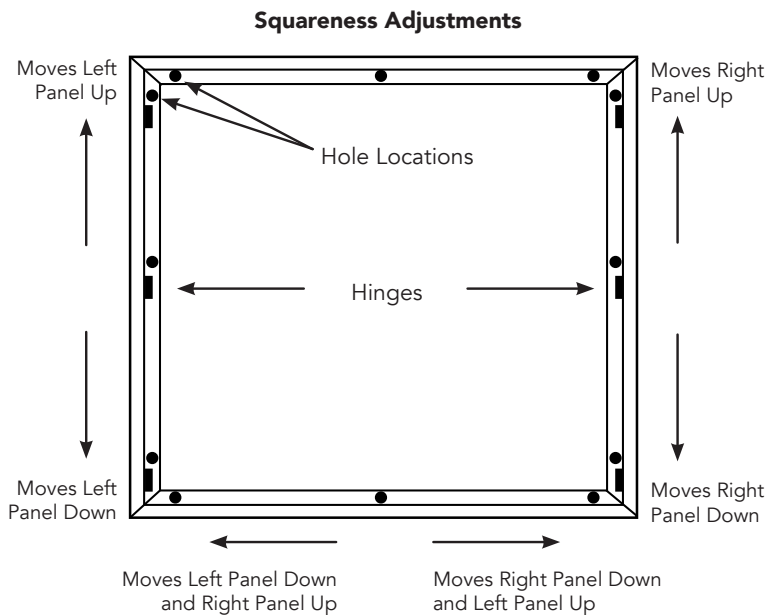

Fig. 3.1
4. Square or level panels to the opening (See Fig. 3.1)